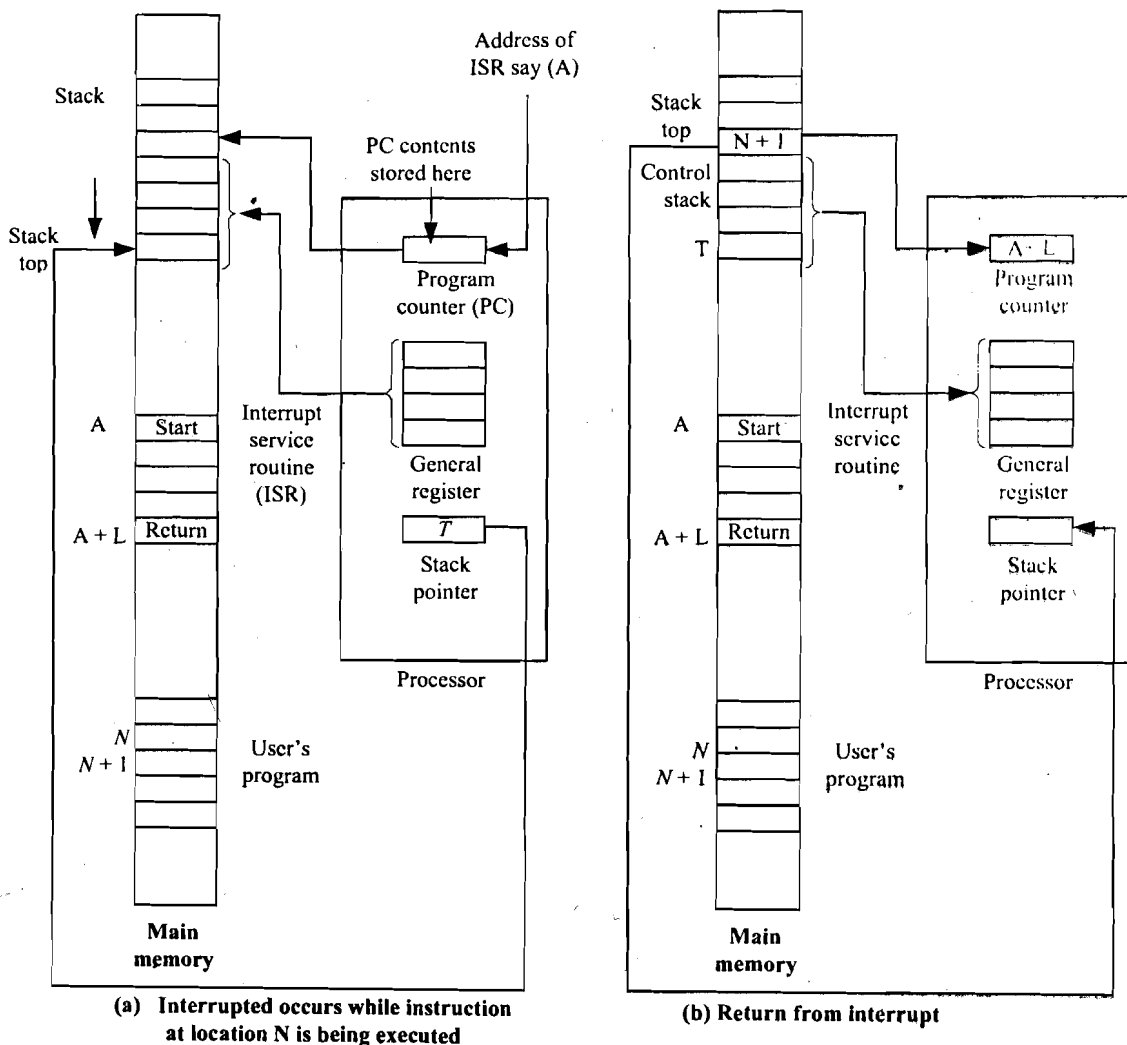

Figure 9: Interrupt Handling
- (b) The location of the next instruction to be executed, of the currently executing program, which is contained in the program counter (PC).
6. The PC & PSW relating to the interrupted program have already been saved on the system stack. In addition, the contents of the processor registers are also needed to be saved on the stack that are used by the called Interrupt Servicing Routine because these registers may be modified by the interrupt-handler. Figure 9(a) shows a simple example. Here a user program is interrupted after the instruction at location N. The contents of all of the registers plus the address of the next instruction (N+1) are pushed on to the stack.
8. When interrupt processing is complete, the saved register values are retrieved from the stack and restored to the registers, which are shown in Figure 9(b).